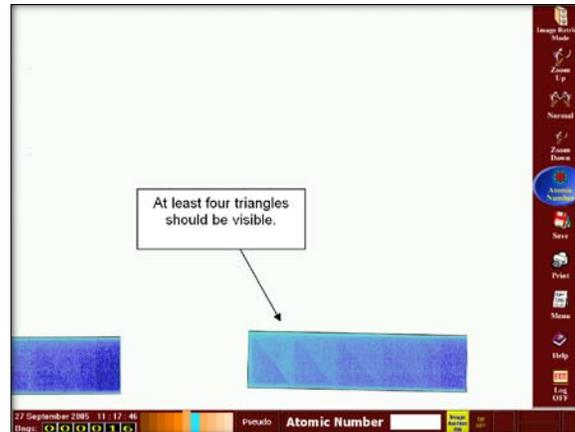

Figure 94: Steel Penetration Imaging Test
- b. Adjust intensity to +1 above normal. At least four triangles should be visible (Figure 94).